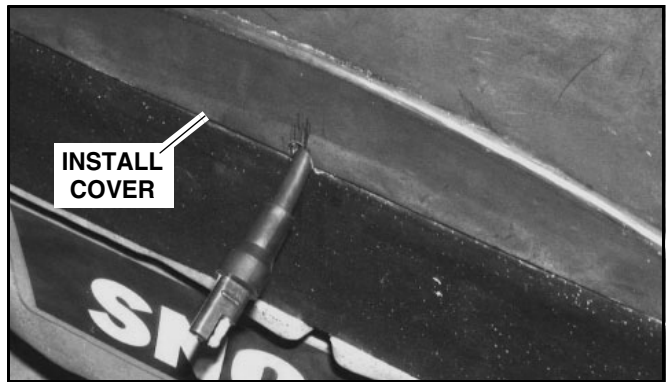

Figure 12
3. Install cover on motor plate (See Figure 12).